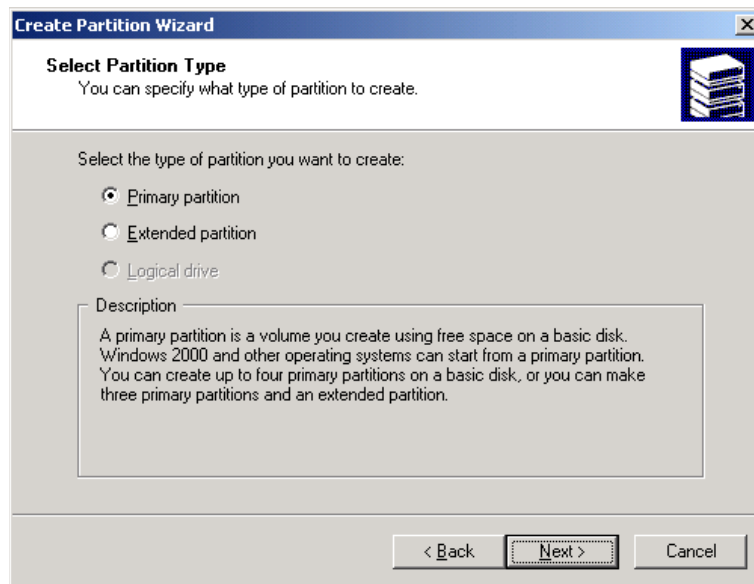

Figure 3.3 Create Partition Wizard Dialog Box
1. On the Disk Management main window, select the unallocated area for the SCSI disk you want to partition, and select the **Create Partition** menu. The Create Partition Type wizard starts (see Figure 3.3).